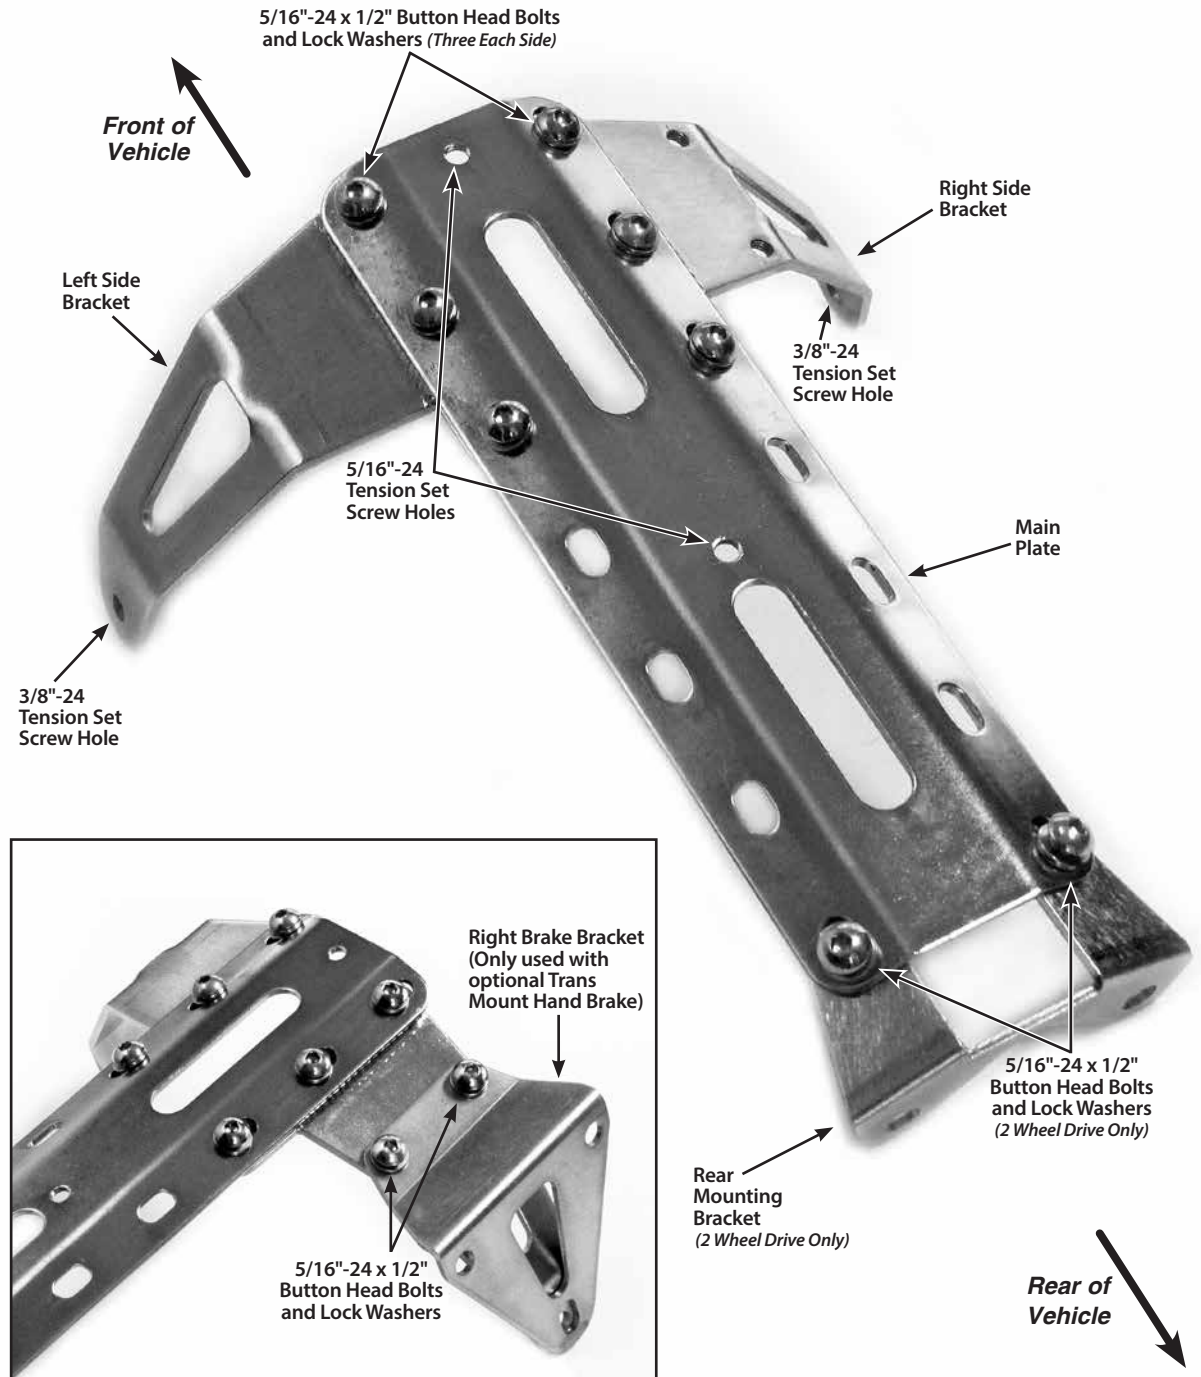

Fig. 3
The left side bracket and right side bracket bolt directly to the main plate. Attach the side brackets to the underside of the main plate as shown in **Fig. 3**, using three 5/16"-24 x 1/2" button head bolts and lock washers on each side. **DO NOT TIGHTEN AT THIS TIME.**
Step 4: (2 Wheel Drive transmissions) Attach the rear mounting bracket to the underside of the main plate with the bracket ears pointing to the front of the transmission (toward the engine) as shown in **Fig. 3**, using two 5/16"-24 x 1/2" button head bolts and lock washers. **DO NOT TIGHTEN AT THIS TIME.**